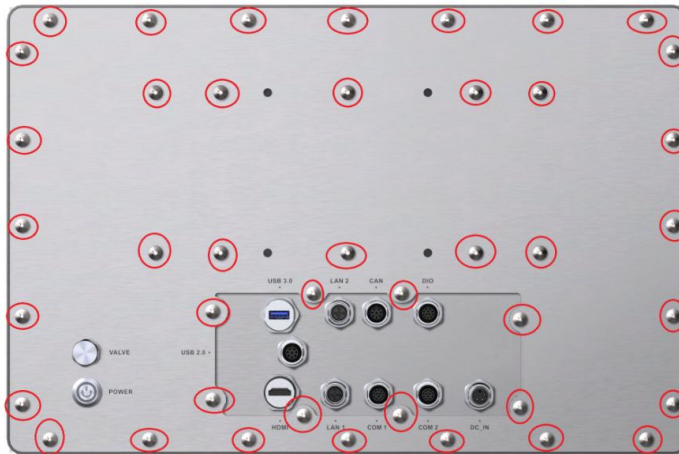

Figure 3-1: Back Cover Retention Screws
Step 1: Remove all retention screws from the back cover (**Figure 3-1**).